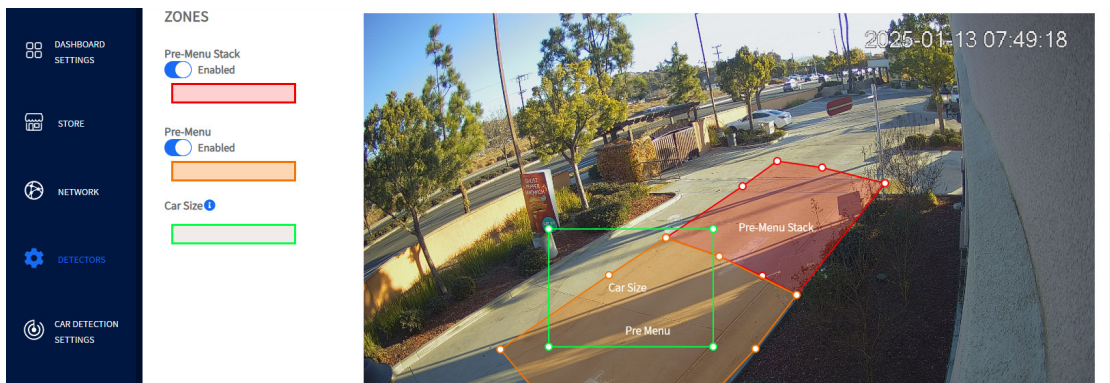

Fig. 30
14. The Car Size polygon (in green) is used as a measurement tool to approximate the size of a vehicle. Any average-sized car (e.g., a sedan) close to the zones can be used. Drag the box to one of the captured zones. Place the box over the car and adjust the box using the corner vertices to match the vehicle size. If no cars are present, the installer can use their car if it is an average-sized vehicle. See Fig. 30.